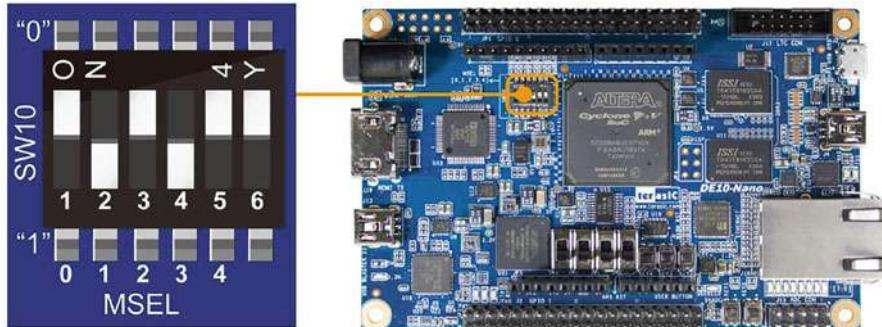

Fig. 4.6: Default switch SW10 setting (FPPx32) when the DE10-Nano board ships
**Mode 1: FPPx32.** This stands for Fast Passive Parallel x32 mode, Compression Enabled, Fast POR. **This is the default setting of the DE10-Nano board when it ships.** See Fig. 4.6 for this SW10 switch setting.